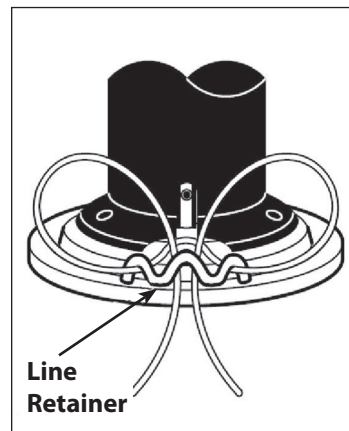

Figure 13: Threading trimmer line through center hold.
4. Next, take the ends of the line, cross over the line retainer, and thread the ends through the center hold. **SEE FIGURE 13.**